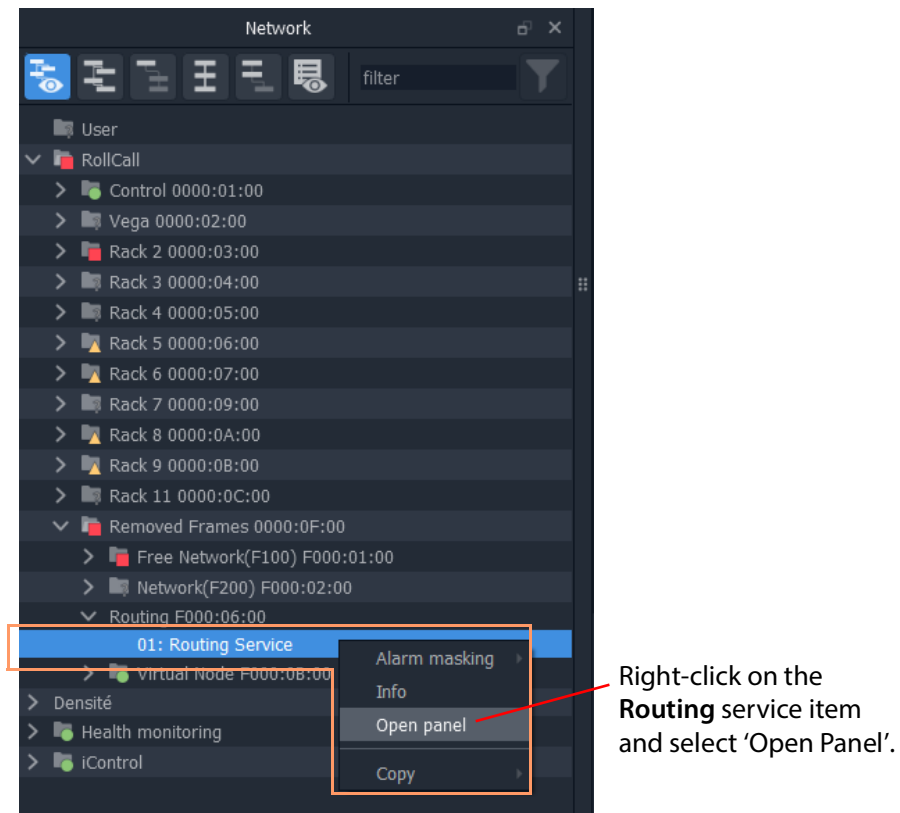

Fig. 13-5: Open a Bulk Routing Panel
- 3 Locate the **Routing** service item in the **Network** window of GV Orbit Client. And right-click on the item and select 'Open Panel'. See Figure 13-5.